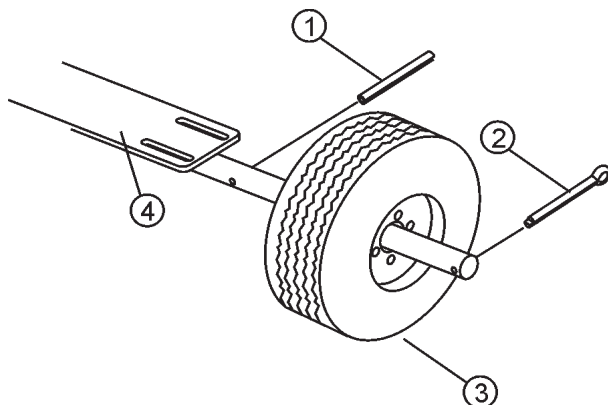

Figure 1. Generator Axle Assembly
1. Assemble the Generator Axle - Push the roll pin through the inner axle hole. Push the wheel on the axle and then insert the cotter pin through the outer axle hole. Bend the cotter pin to secure the wheel in place (Figure 1).